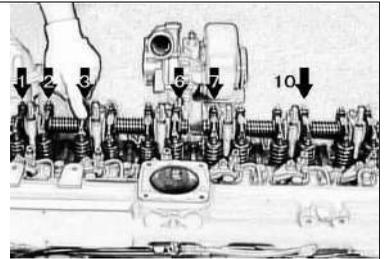

Fig 5-22 Valve Clearances Adjustment for Six-cylinder Engine
2.11 For six-cylinder engine, counted from front side of the engine, adjust no.1, 2, 3, 6, 7, 10 six valves (see Fig 5-22).